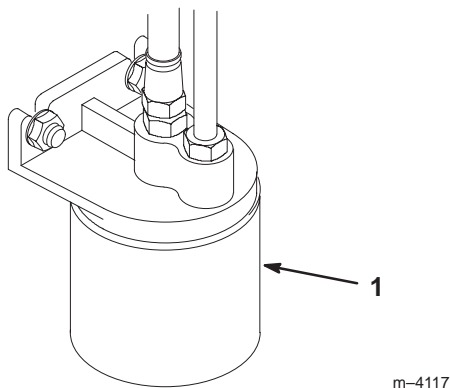

Figure 36
A. Place drain pan under filter, remove the old filter and wipe the filter adapter gasket surface clean (Fig. 36).